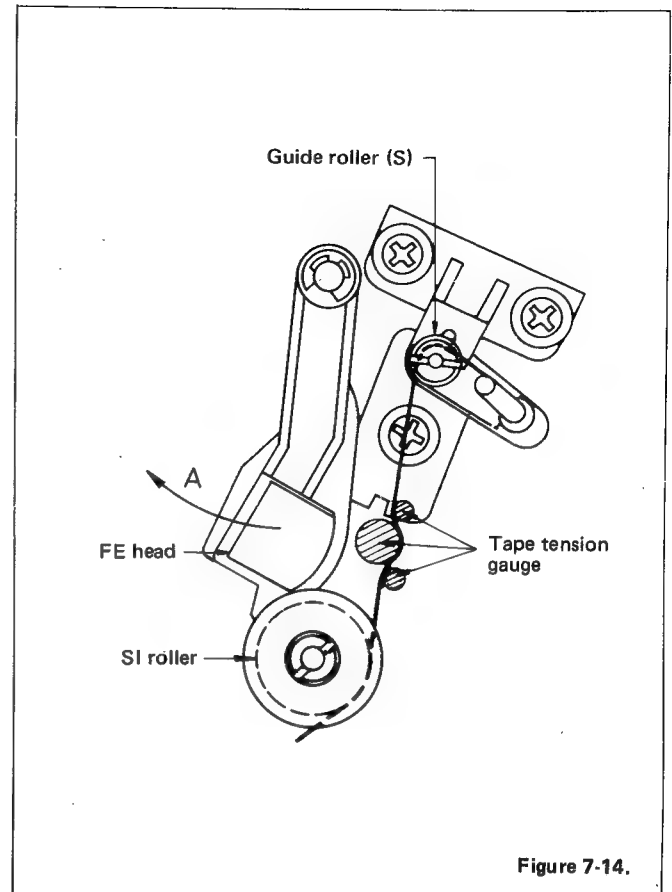

Figure 7-14.
- 4) Keep the FE head away in the direction of arrow A (see Figure 7-14) and install a tape tension gauge (see Figure 7-14 and 7-15). Check that tape tension is 23–26g.